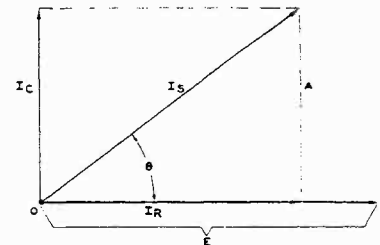
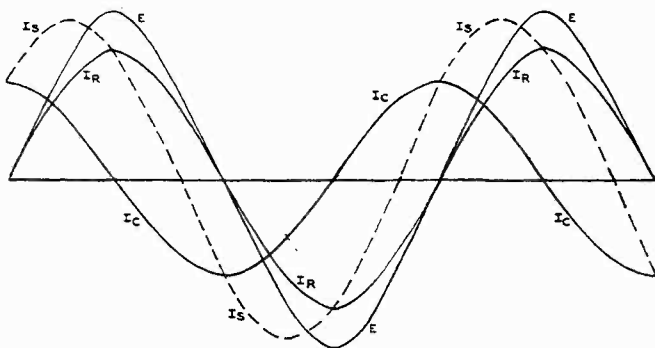
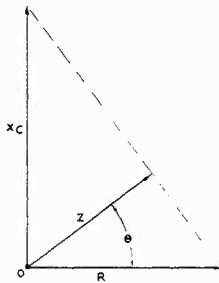

Fig. 3. Vector representation of Fig. 2.
Fig. 2. Wave forms for a parallel  $R$  and  $C$  circuit, shown in proper phase and relative amplitudes.
Fig. 4. Parallel impedance construction.
Fig. 3 shows the vector diagram corresponding to the wave forms in Fig. 2. Voltage, the reference quantity, is plotted at zero phase, directly to the right from the origin.  $I_R$ , in phase with  $E$ , is plotted to scale in the same direction. Because current in the capacitor leads the
Examination of Fig. 3 will show its similarity to the *voltage* vector diagrams for series  $RC$  and  $RL$  circuits. One difference is that  $I_C$  is plotted upward from the origin, while  $E_C$  was plotted downward for a series circuit. There is really no inconsistency, however; in each case  $E_C$  lags  $I_C$  by  $90^\circ$ . The difference arises because, in the series case,  $I$  is plotted at zero phase, and, in the parallel case,  $E$  is so plotted. In both cases the vertical vector is equal in length to construction line A (Fig. 3), so that a right triangle
This is derived in the Appendix. Logically, the graphical solution for resultant impedance is different as well; it is shown in Fig. 4.  $R$  is drawn to scale from the origin to the right, and  $X_C$  from the origin upward. A construction line is then drawn from the end of  $R$  to the end of  $X_C$ , and  $Z$  is drawn from the origin perpendicular to the construction line. Its magnitude is in the same proportion to its scalar length as that of  $R$
called, *current* is the value common to all elements, and different voltages appear across each. Plotting wave forms of current in a parallel circuit, therefore, leads to the same sort of information as plotting voltages in a series circuit. This is done for a parallel  $RC$  circuit in Fig. 2.
These are the conditions portrayed graphically in Figs. 2, 3, and 4.
right of the  $E$  and  $I_R$  wave forms, Fig. 2, and the  $I_S$  wave form would accordingly lag  $E$  and  $I_R$  by an angle between  $0^\circ$  and  $90^\circ$ , rather than leading them by a similar angle.
2)  $I_L$  would be plotted in a downward direction in Fig. 3, and  $X_L$  would be plotted downward in Fig. 4; in each case  $\theta$  would be a negative angle indicating the current lag.